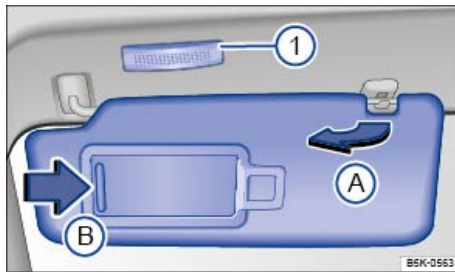

Fig. 78 In the headliner: Sun visor.
- Lift it out of the retaining clip ⇒ fig. 78 \(A\) and swivel it over toward the door.